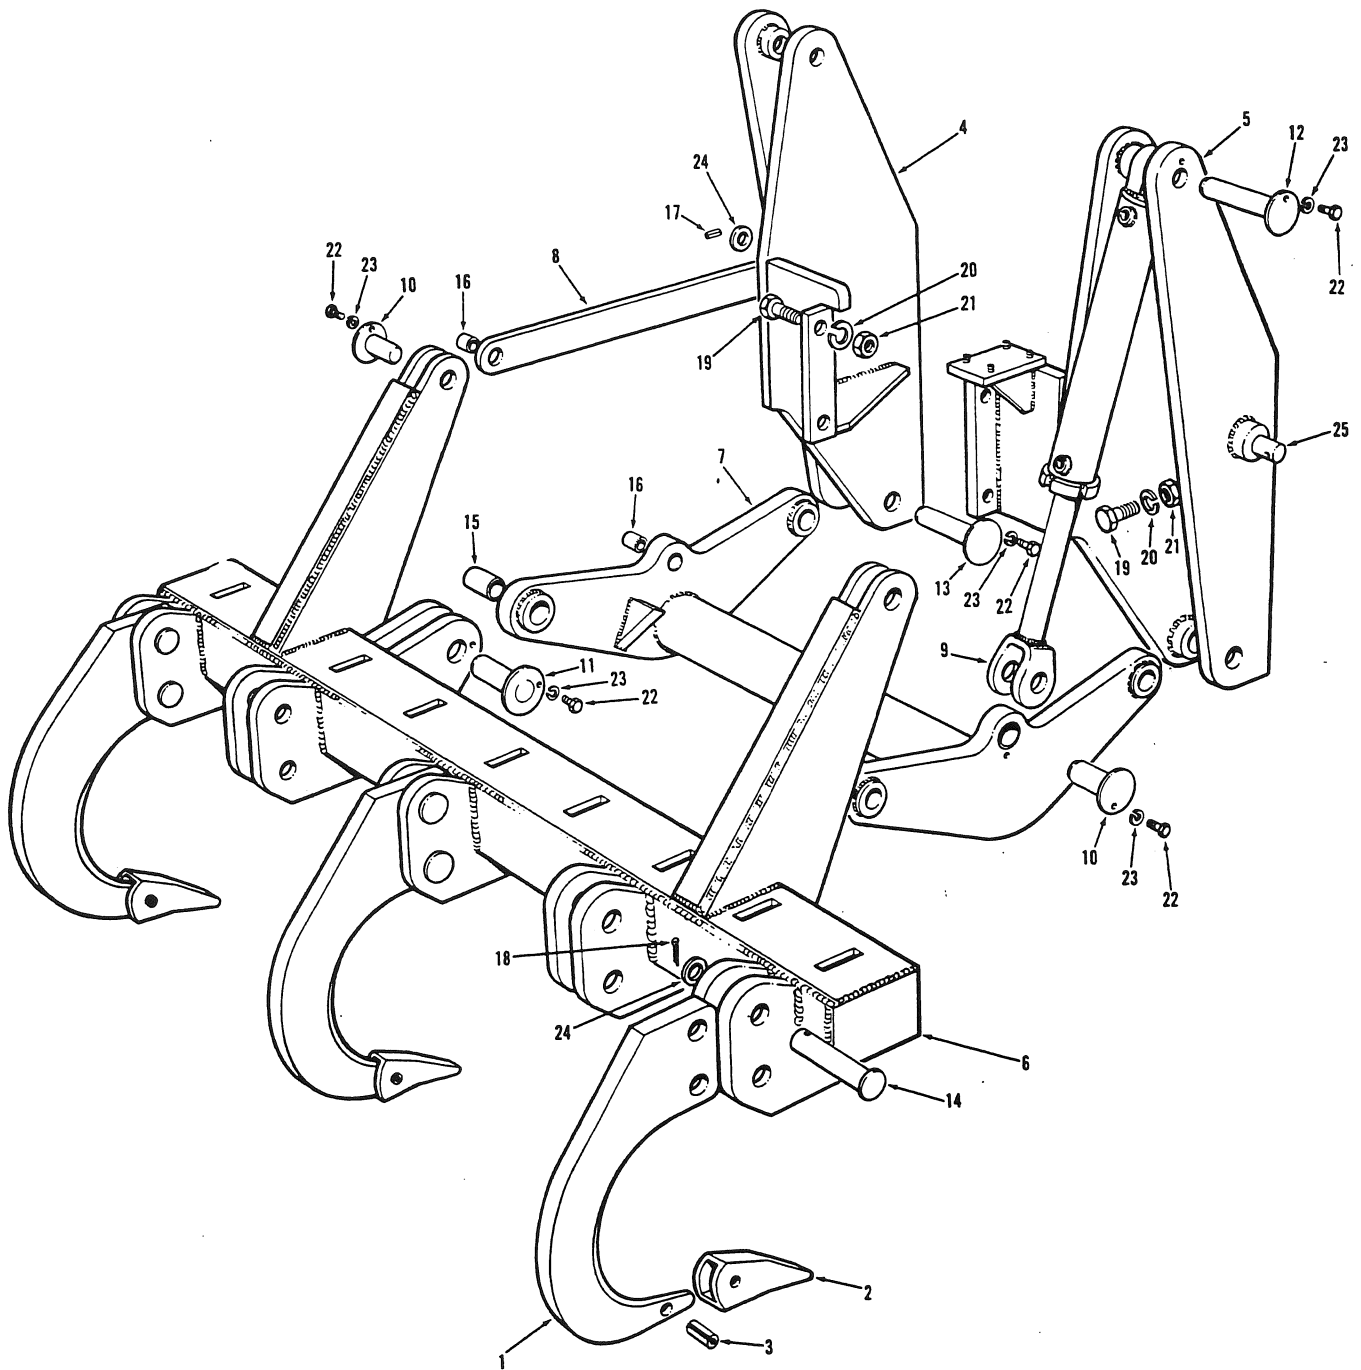
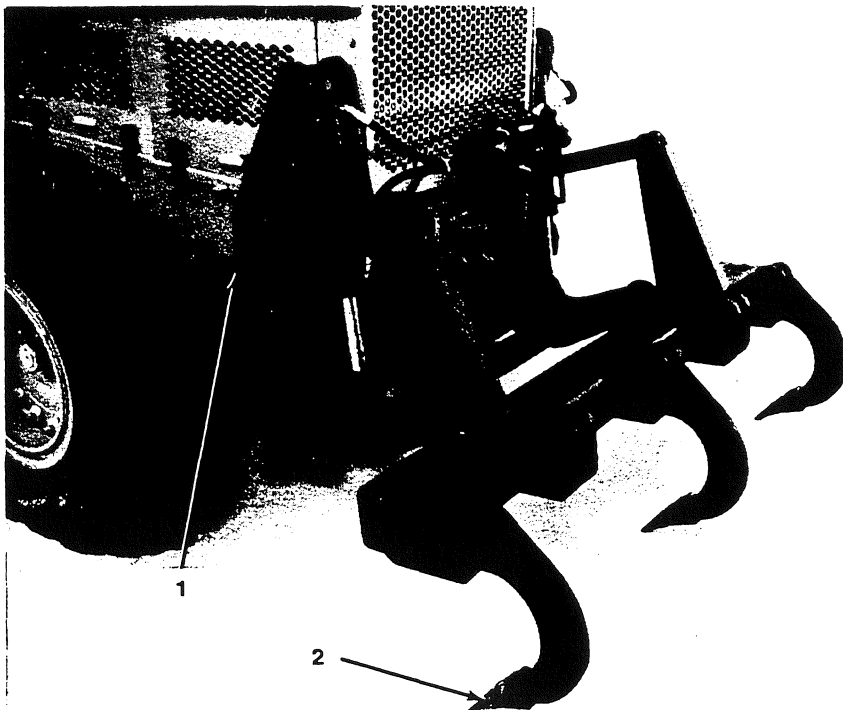

Figure 11
Figure 12
1. Removal and Disassembly (Fig. 11).
3. Attach suitable lifting tackle to both sides of the ripper box (1). Remove and discard the cotter pins (18), and remove the flatwashers (24). Remove the ripper tooth pins (14) (two per tooth). Remove the ripper teeth (1).
4. Remove the hexagon head capscrews (22) and lockwashers (23) retaining the pins (10 and 11). Remove the pins, and hoist the ripper box away from the grader.
9. Assembly and Installation (Fig. 11).
KEY TO FIG. 11
13. Attach suitable lifting tackle to the ripper box (6). Place the ripper box into its position with the lower pull arms, and retain with the two pins (11), hexagon head capscrews (22) and lockwashers (23).
14. Lubricate the bearing bushings (16) in the two upper control rods. Raise the ripper box, and install the upper control rods. Retain the rods with the pins (10), hexagon head capscrews (22) and lockwashers (23). Install the flatwashers (24) and roll pins (17).
15. Install the ripper tooth shanks (1), and retain with the pins (14), flatwashers (24) and new cotter pins (18) (two per tooth).
20. Adjustments (Figs. 11 and 12). The pitch of the ripper can be adjusted manually by removing the two roll pins and flatwashers, moving the upper control rods to engage an alternative hole with the pins, and installing the flatwashers and roll pins (1. Fig. 12).
21. Worn tooth points (2, Fig. 11) can be replaced by driving out the pin (3, Fig. 11) and removing the point (2, Fig. 12).